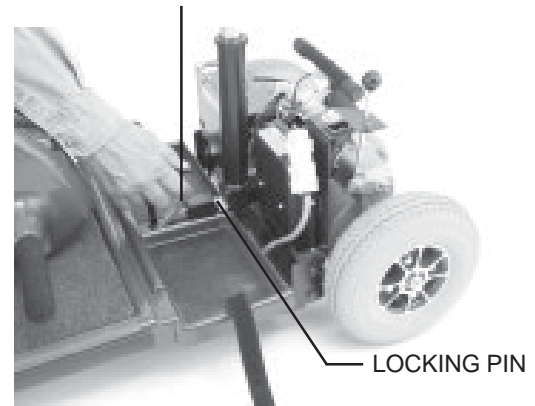

Figure 16. Front-To-Rear Locking Lever
2. Pull up on the front-to-rear locking lever (releases the locking pin) with one hand, and push on the seat pedestal to pivot the scooter’s rear section backward with your other hand—far enough so the rear section’s upper pegs come free of the front section’s upper slots. See figures 16 and 17.